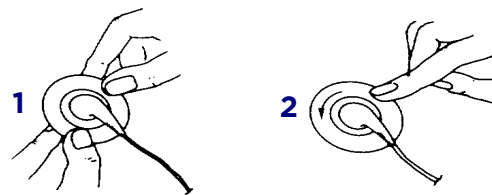

Figure 3-1 Electrode application
- Always attach the electrode to its leadwire before applying the electrode to the patient (refer to Figure 3-1). Do not apply pressure directly over the electrode's gel column.